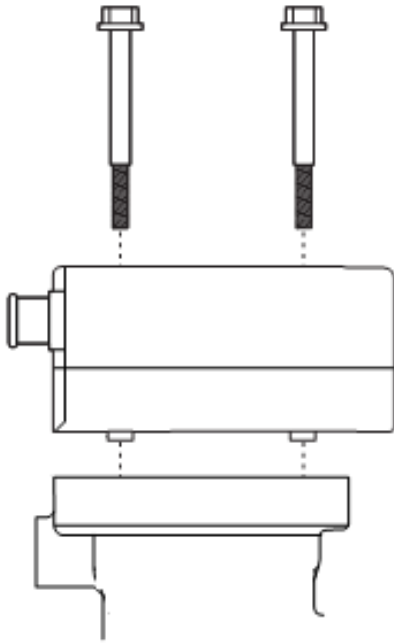

Figure 3
2. Position the head on top of the crankcase. Make sure the notched pins of the head align within the recesses of the crankcase, as shown in Figure 3.